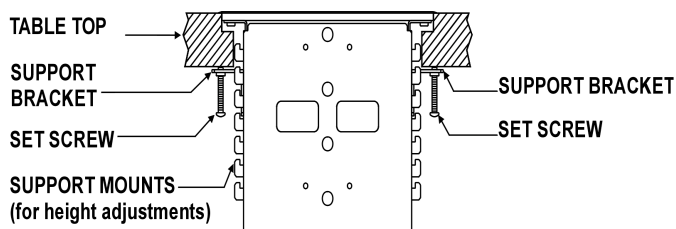

Figure 1: Attachment of the PNP202 to the table using support brackets and set screws
Step 3. Place the support brackets under the table and place them between the support mount grooves on the side of the **PNP202** unit. Attach the brackets to the groove at the desired height and secure them to the bottom of the table using the 6-32 screw. There are two support brackets, one for each side of the unit. (See Figure 1)